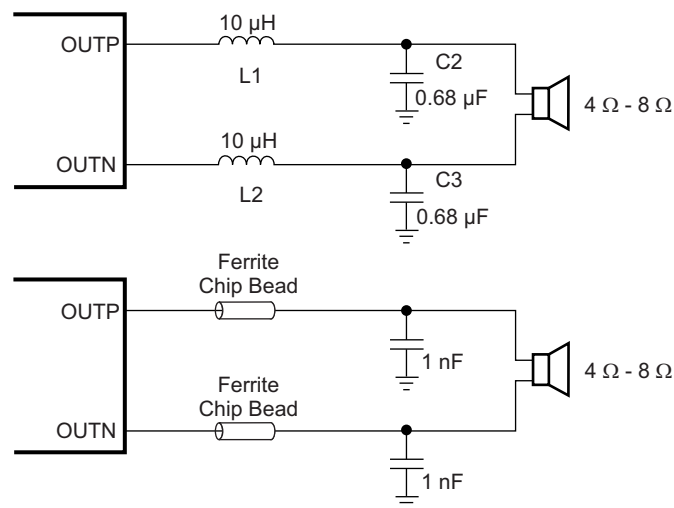

图 33. TPA31xxD2 Output Filters
- **Output filter** — The ferrite EMI filter (see 图 33) should be placed as close to the output terminals as possible for the best EMI performance. The LC filter should be placed close to the outputs. The capacitors used in both the ferrite and LC filters should be grounded.